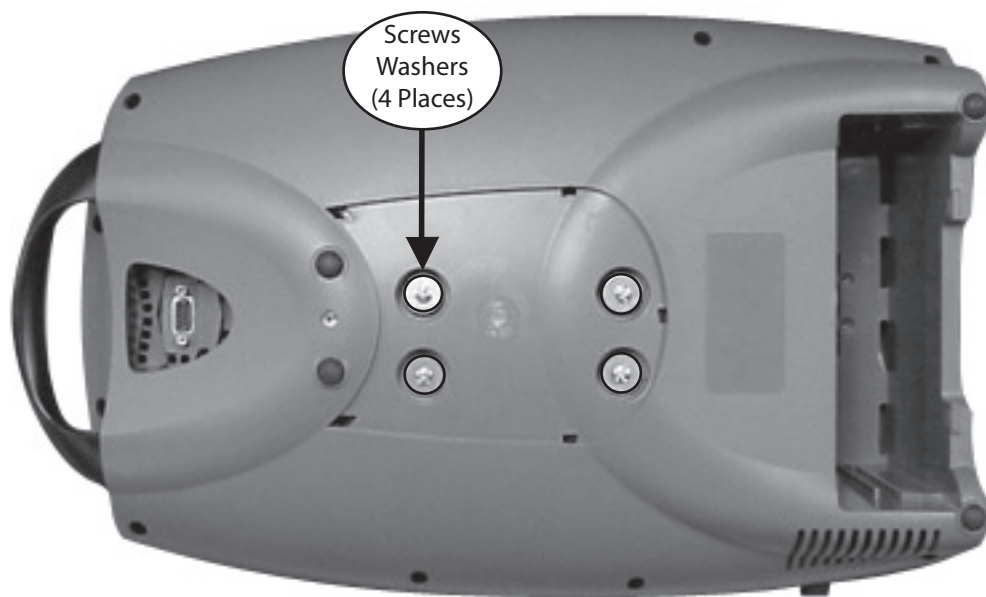

Figure 75: Remove Compressor Box screws.
6. Turn the unit over onto a padded ESD safe surface and remove the 4 screws (M4x16 Pan Head Machine Screw, PN 6961-420-SEQ) and washers (M4 Flat Fender Washer, PN 3568-SEQ) shown in Figure 75.
9. Position the Compressor Box into the Bottom Case with the compressor box screw holes aligned with the 4 brass eyelets. Screw in the 4 screws and 4 washers as shown in Figure 75. Apply small amount of Loctite 425 on the threaded tips of the screw before installing.